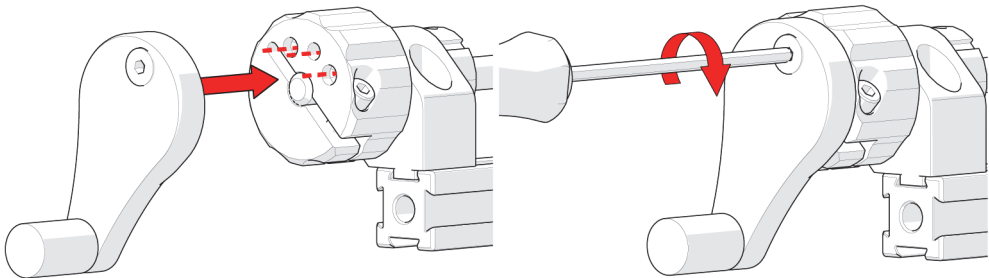

Figure 2-57 Crank handle installation
1. Align the dowels of the crank handle with the holes of the main knob (see Figure 2-57 on page 75).
2. Using the supplied 3 mm hex driver, tighten the hexagonal screw (see Figure 2-57 on page 75).